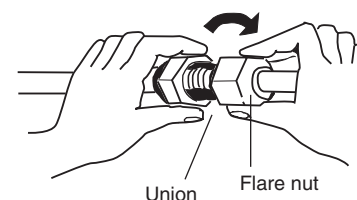

Fig. 5-5
- (3) For proper connection, align the union tube and flare tube straight with each other, then screw on the flare nut lightly at first to obtain a smooth match. (Fig. 5-5)